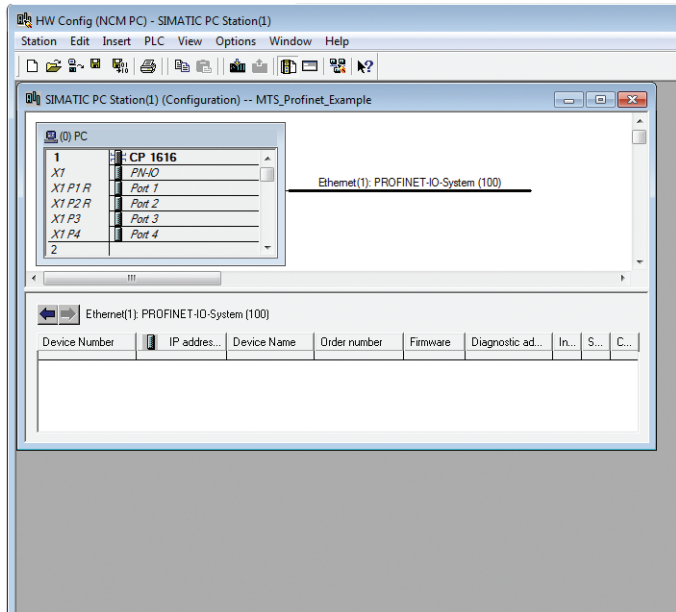

Fig. 33: Configuration of network without sensors (source: Siemens)
7. A network without sensors has been configured (Fig. 33).